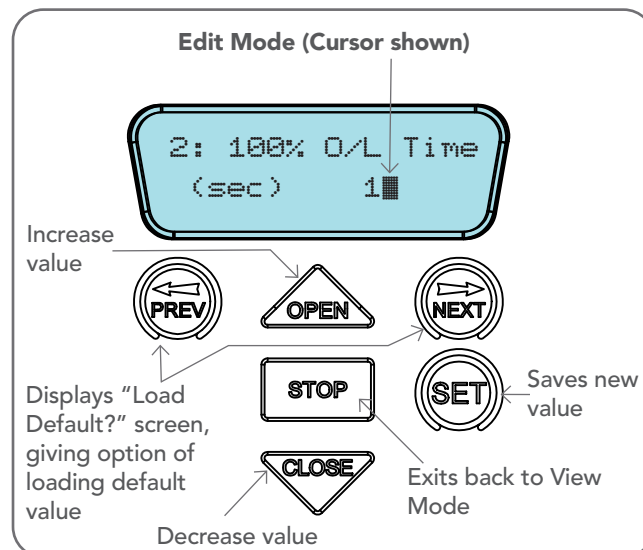

Fig B.2
- Press OPEN/CLOSE to enter Edit mode and change parameter setting (**Fig B.2**).